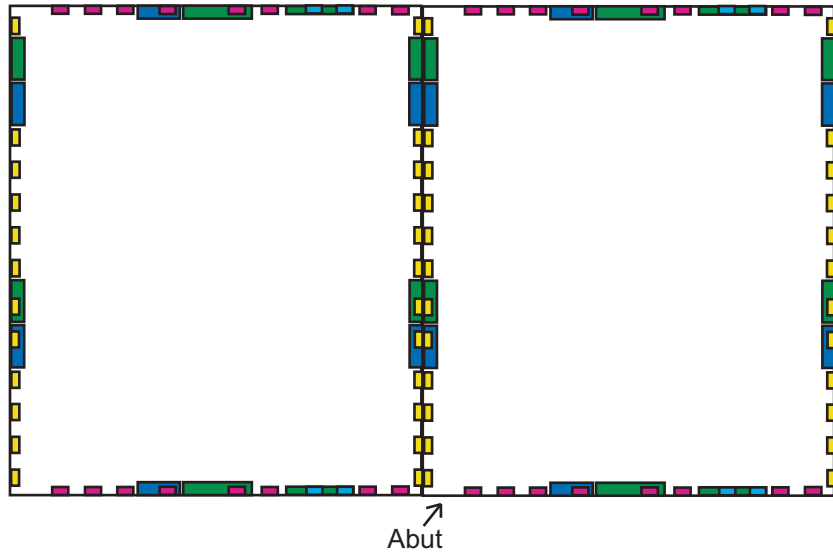

Figure 1.6: 2x1 Array of Metapixels
1. The abutment box for this cell is set by placing a port called ‘Abut’ on the Icon/Outline layer. **THIS IS VERY IMPORTANT!** The metapixels are arrayed with their abutment boxes abutting (Figure 1.6).